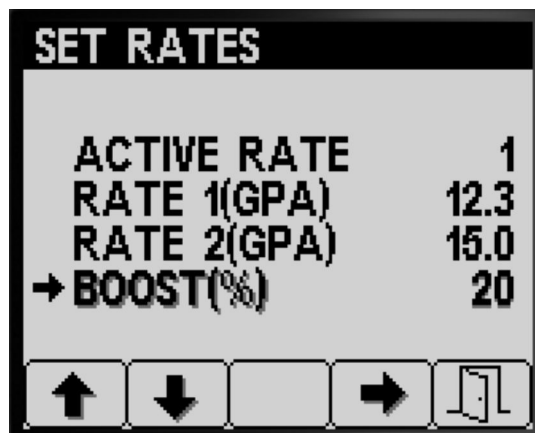

Figure 8
1. Press button 1 or 2 to navigate to the boost-rate percentage option (Figure 8).